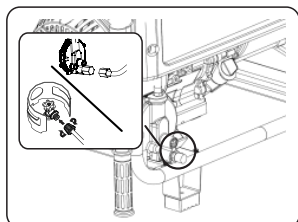

Fig 8
- Connect the gas pipe to the intake nozzle of regulator ; Open the valve of LPG bottle (See fig 8)